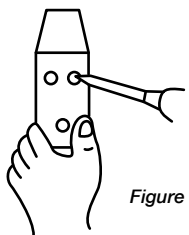

Figure 1
- Drill 3 holes on the wall with a distance aligning with the hole on the wall bracket as shown in figure 1.